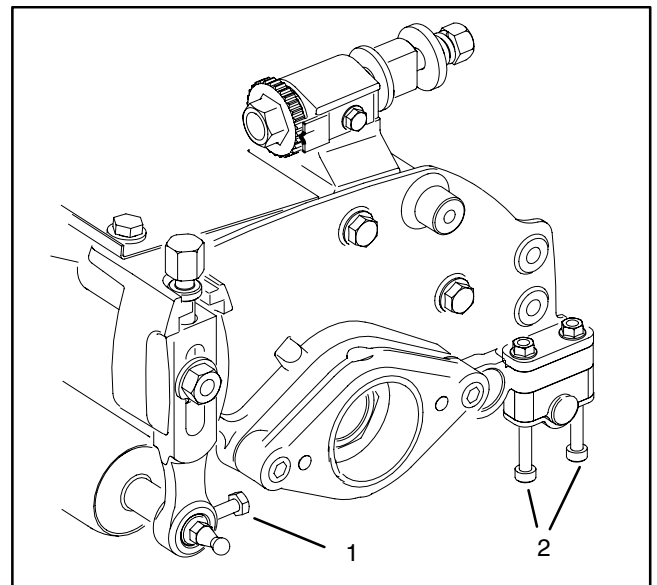

Figure 18
4. Remove the reel bearing lock (8) nut from each end of the reel shaft.
5. Loosen the setscrews securing the front roller to the height of cut arms (Fig. 18). Do not remove the set screws.
6. Loosen the saddle strap screws and flange nuts securing the rear roller to the the side plates (Fig. 18). Do not remove the screws and nuts.
7. Remove the capscrew (24), washer (23) and lock nut (25) securing each end of the grass shield to the side plates. These are the only capscrews that must be removed. The grass shield and the lift hook do not need to be removed.
8. Remove the 2 shoulder bolts (7) securing the right hand side plate to the cutting unit frame. Remove the side plate from the reel shaft and roller shafts.
9. Remove the 2 shoulder bolts (7) securing the left hand side plate to the cutting unit frame. Remove the side plate from the reel shaft and the roller shafts.